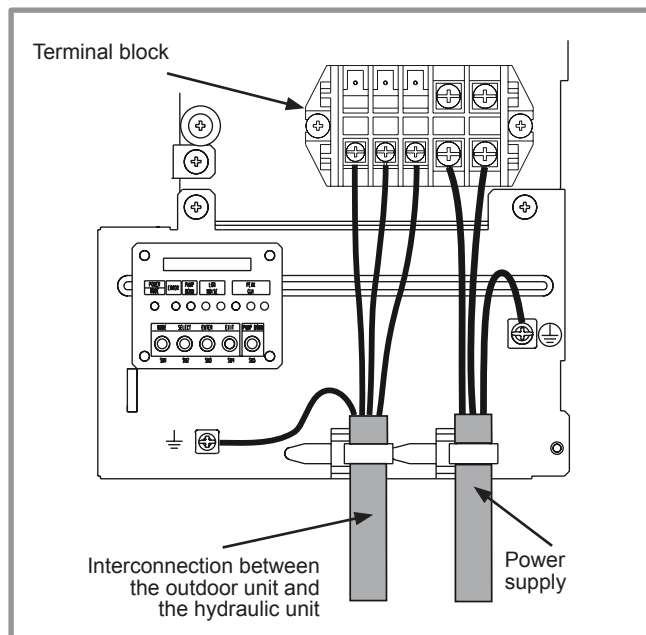
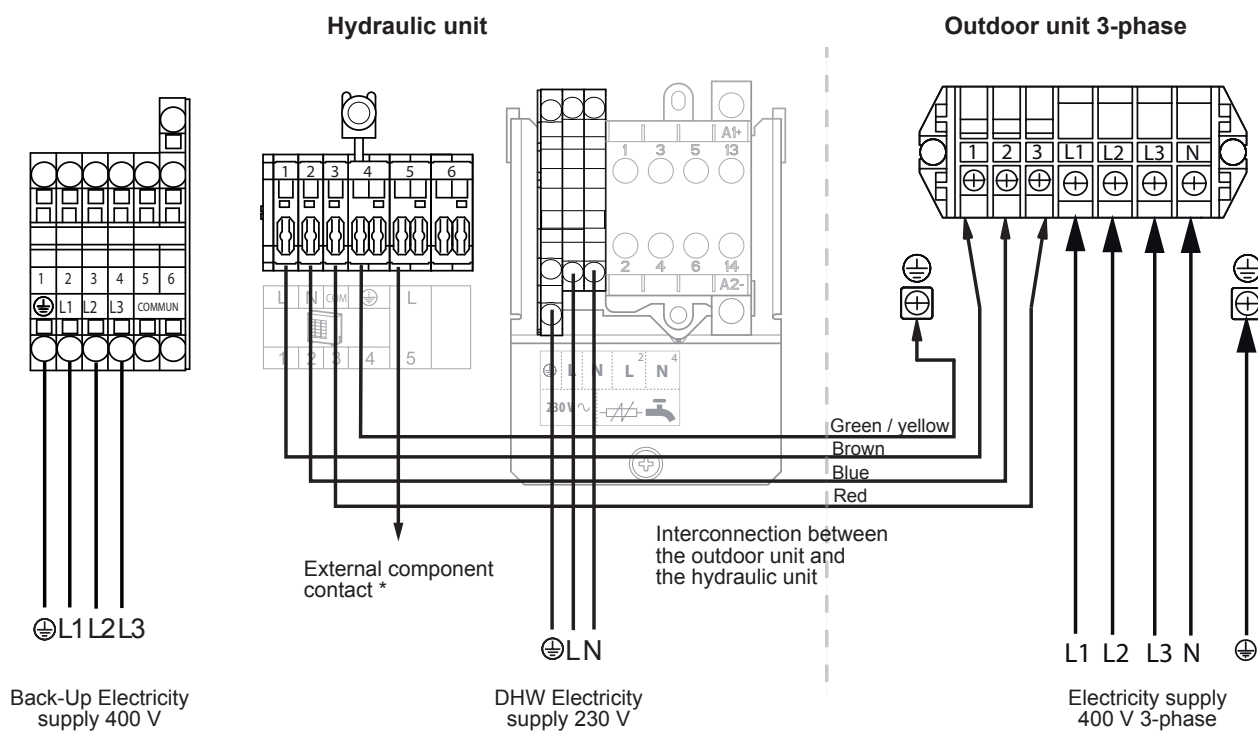

figure 35 - Connections to single phase outdoor unit's terminal block
figure 44 - Connection to terminal block and power relays
- Make the connections in accordance with the diagram **figure 35 et figure 44, page 39**.
- Make the connections in accordance with the diagram figure 44.